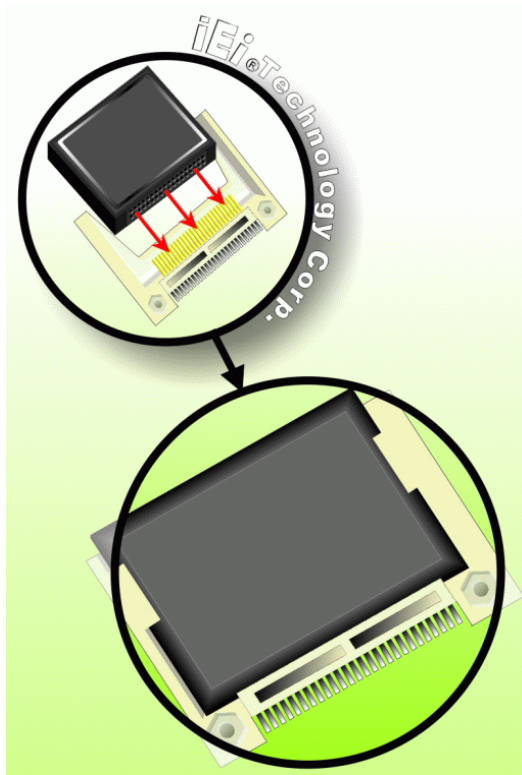

Figure 5-7: CF Card Installation
- Step 3:** **Insert the CF card.** Gently insert the CF card into the socket making sure the socket pins are properly inserted into the socket. See **Figure 5-7**.